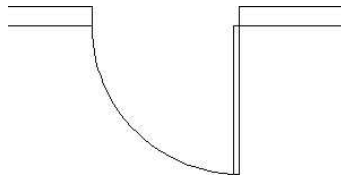

FIGURE 7.12 : The result of a zoom window
2. Use Zoom Window to define a window that encloses the bathroom door. The view changes to a close-up of the area enclosed in your window (see Figure 7.12).